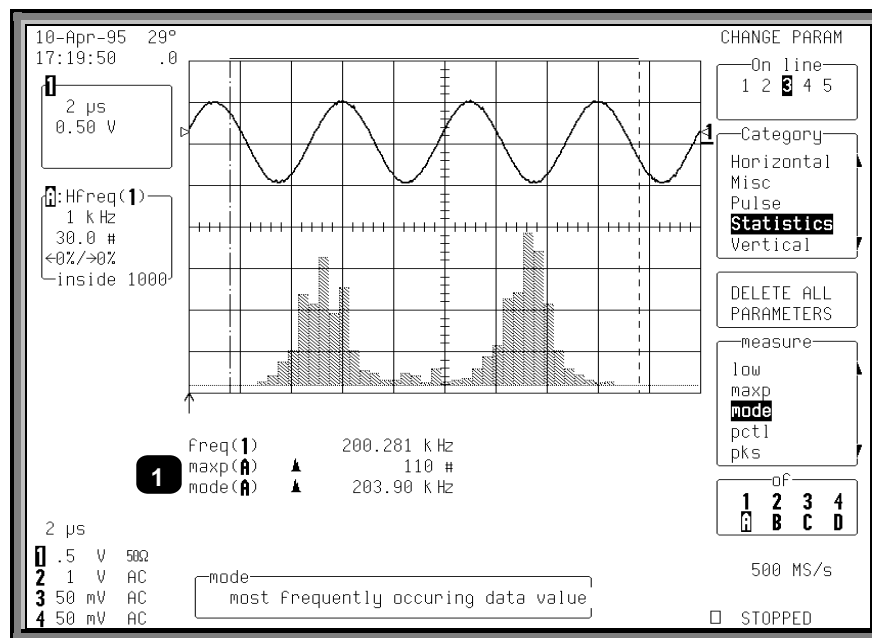

Figure 2.7
6. Press the button to select **CHANGE PARAMETERS** and access the CHANGE PARAM menus (Fig 2.7).